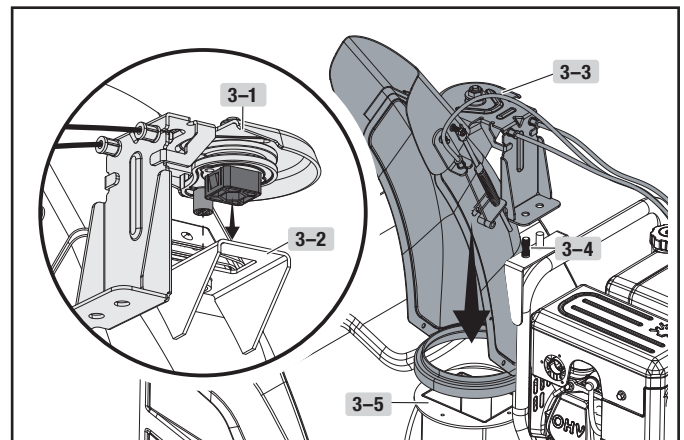

Figure 3
3. Remove the chute pivot assembly (3-1) from the bubble wrap and attach to the bracket on the chute (3-2). Align the round and square connector on the underside of the chute pivot assembly to the bracket. The square connector snaps in place. Then, place the entire chute (3-3) over the two posts (3-4) aligning the chute with the base (3-5). The chute will just rest on the base and rotate at this point (Fig. 3).